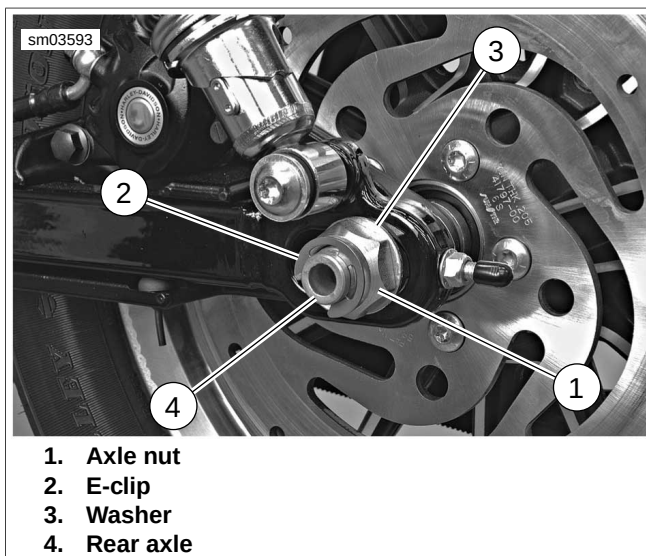

Figure 2-11. Rear Wheel Mounting (typical)
5. See Figure 2-11. Remove e-clip (2), axle nut (1) and washer (3).
7. Gently tap end of axle (4) with a soft hammer to loosen. Pull axle free of rear fork assembly.